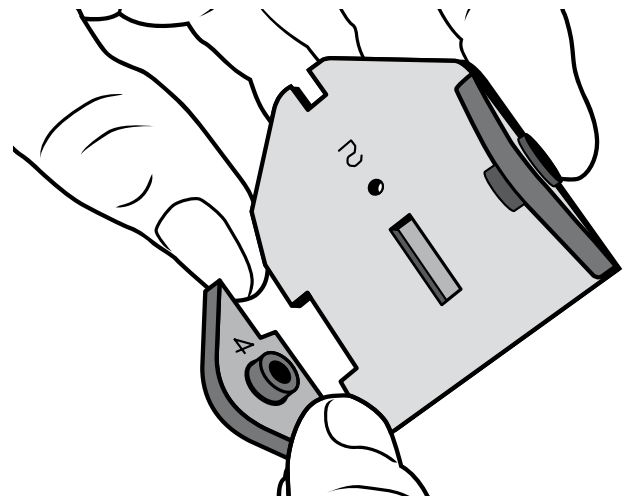

Figure 3
3. Glue two of the Part 4 pieces onto Part 2 as shown (Figure 3). Make sure the flanged ends (the wide end) of the bushings face out from the middle of Part 2. Let the part dry completely.